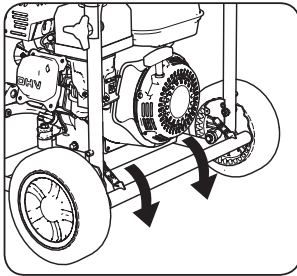

Fig 7
- Lock the Transportation Wheels using the wheel brake. (**Fig. 7**)